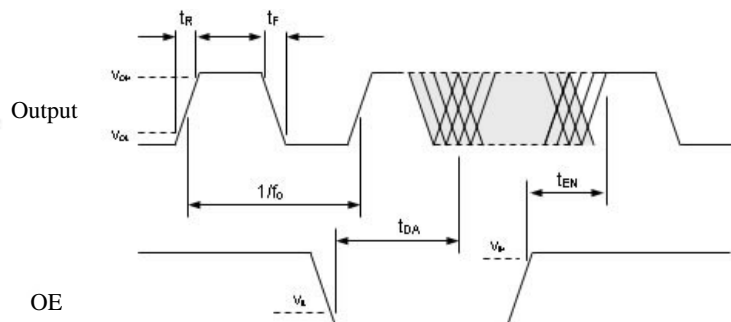

Figure 3. OE Function and Output Waveform
- See Figure 3 for detail (all based on maximum drive settings).